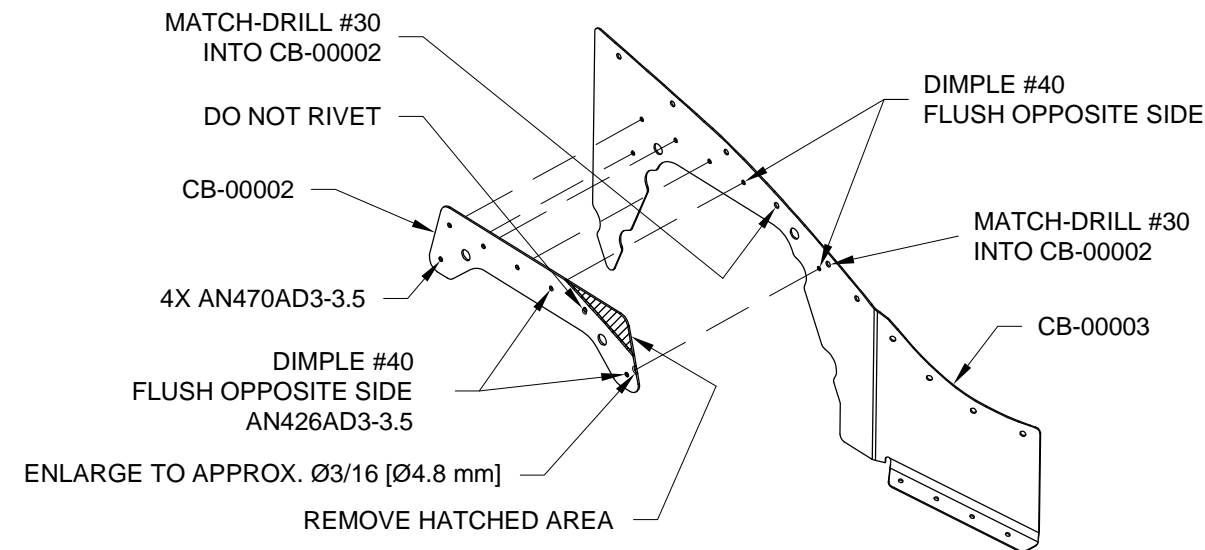

FIGURE 1: CYLINDER 1 BAFFLE
Step 3: Dimple the CB-00003 Cylinder 1 Baffle and CB-00001 Cylinder 2 Baffle as shown in Figure 1 and Figure 2.
Step 4: Cleco one forward doubler to each baffle as shown in Figures 1, 2, 3, and 4.
Step 5: Match-Drill #30 the two holes in the CB-00003 Cylinder 1 Baffle into its forward doubler as shown in Figure 1.
Enlarge the partial hole in the forward doubler to approximately Ø3/16 in. [Ø4.8 mm] with a round file. See Figure 1.
Step 8: Rivet the forward doublers to the baffles as shown in Figures 1, 2, 3, and 4.